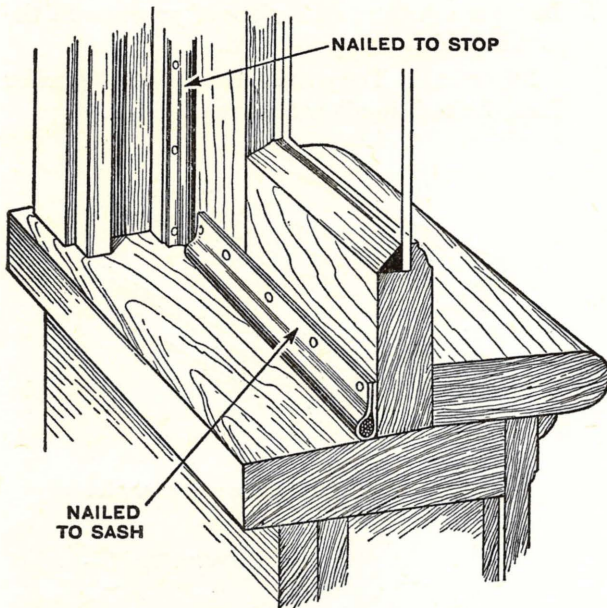

Fig. 479—Rope bound with cloth can be purchased for weatherstripping and installed by the household mechanic
4. Nail stripping in place. (See Figs. 479 and 480.)